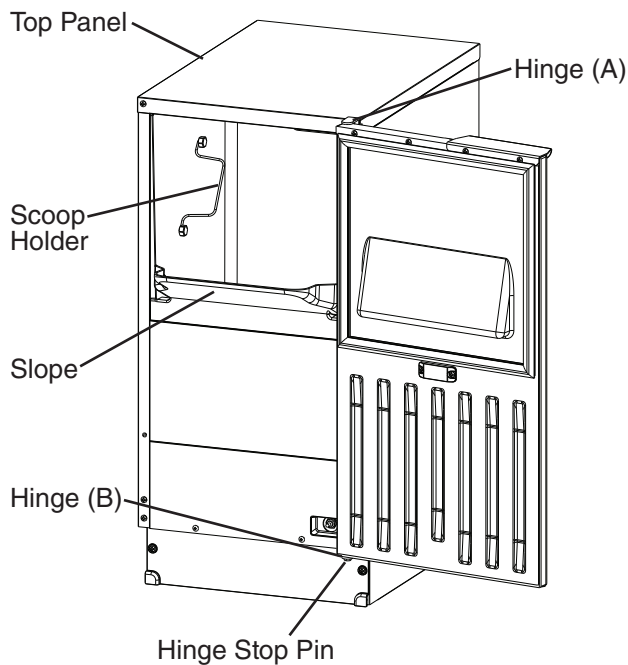

Fig. 31
- 3) While maintaining a hold on the door, remove the hinge stop pin from hinge (B). Pull out the bottom of the door slightly, then gently remove the door from hinge (A). See Fig. 31.